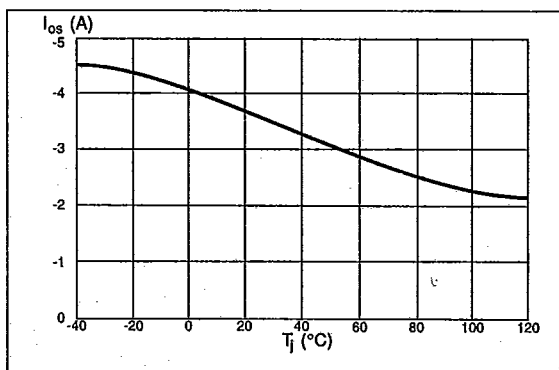

Figure 9. Typical output current shut-down vs. chip temperature.  $5V \leq V_{cc} \leq 40V$ .
The overload protection will typically be activated at  $I_{out} = 3.5A$  at  $T_j = +25^\circ C$ , see figure 9.
- Figure 9 shows the output current shutdown vs. junction temperature.